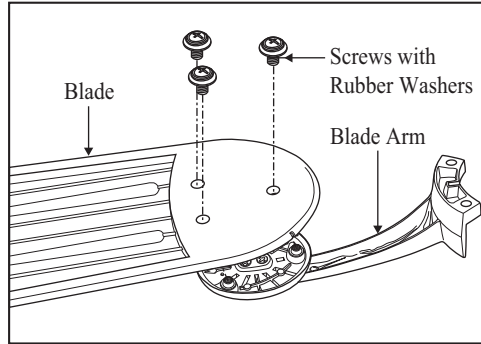

Figure 16
1. Attach blades to blade arm using the screws and rubber washers provided. (Fig. 16) Start a screw into the blade arm, do not tighten. Repeat for the 3 remaining screws and washers.